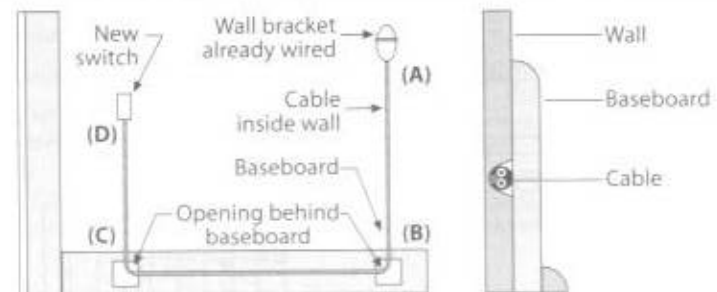

**Fig. 13-14** In old work, lift the wallpaper over the area of a temporary opening, as shown here. The top of the paper serves as a hinge.
**Temporary openings in walls** Sometimes a temporary opening must be made in a wall so that cable can be fished around a corner. On papered walls, use a razor blade or utility knife to cut through the wall covering to form a top-hinged flap as shown in Fig. 13-14. Before lifting the section of paper, soak it with a wet rag to soften the paste. Thumbtacks will hold the lifted portion out of the way while you make a temporary opening in the drywall or plaster. When the wiring is finished, paste the paper back into place.